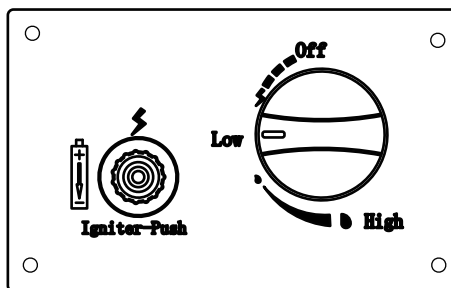

Figure 2
5. Press the control knob, turn counterclockwise to "Low" position, press and hold. When the burner lights, release the electronic igniter button (Figure 2).